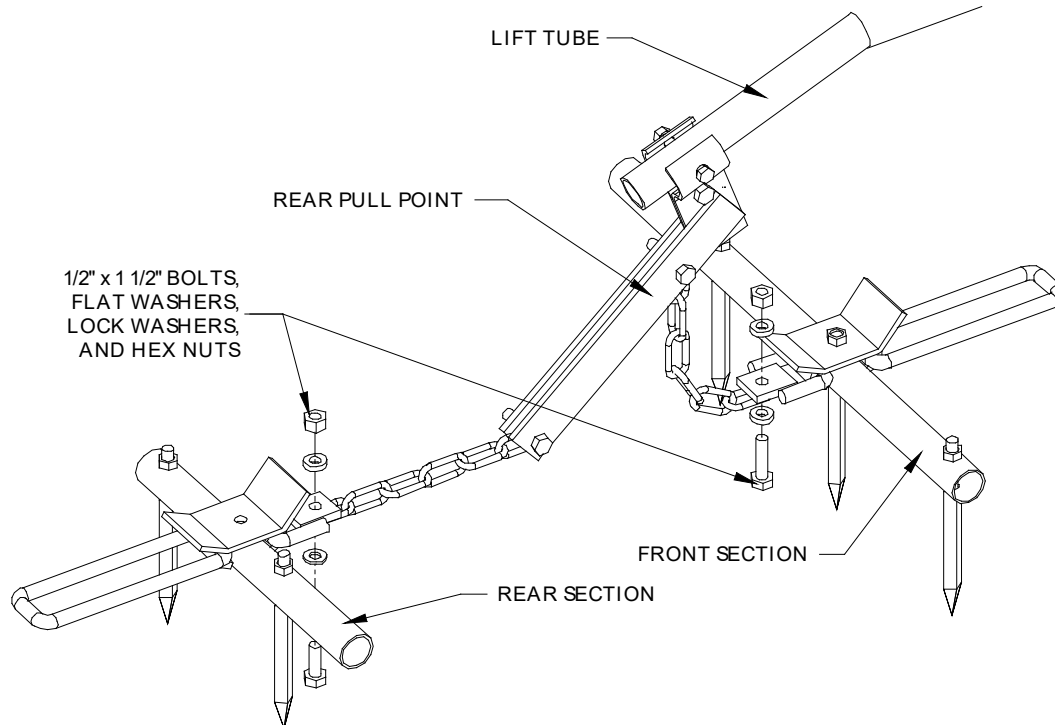

Figure 25
3. Attach the lift chains as shown in Figure 25; use 1/2" x 1 1/2" bolts, flat washers, lock washers, and hex nuts. Make sure the lift chains are not twisted, or binding may occur during transporting or when the harrow is being used in the fields.